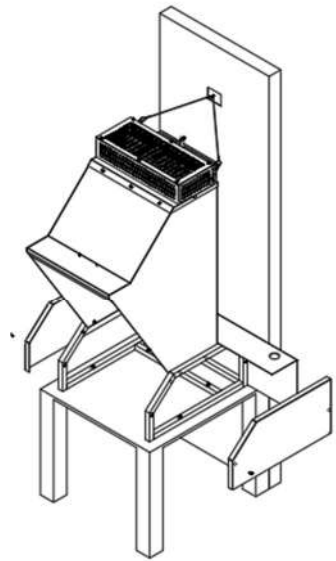

Figure 2.5
- Place back panel, then install side panels with supplied screws (Figure 2.5).